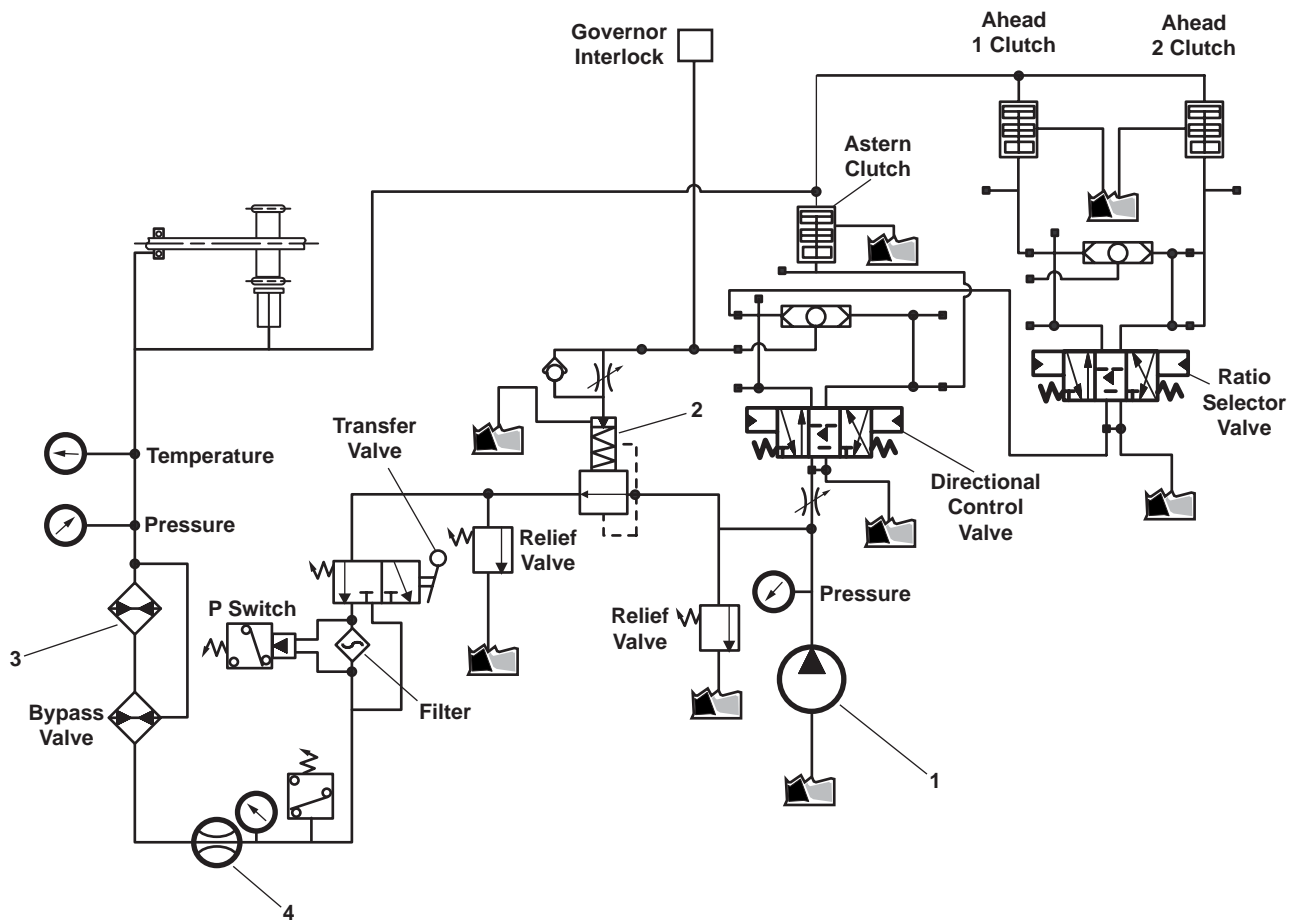
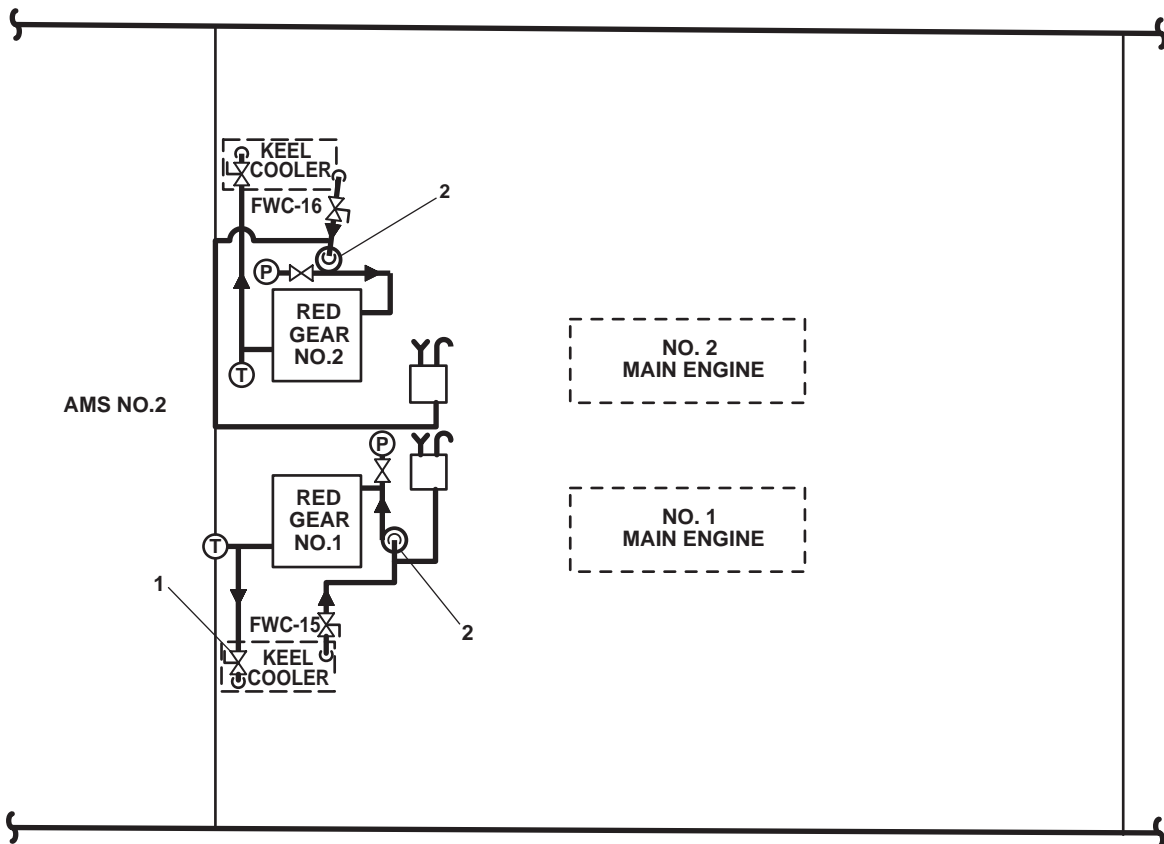

Figure 1. Reverse Reduction Gear Schematic
Figure 2. Reduction Gear Fresh Water Cooling System
A high-pressure gear pump (figure 1, item 1) is driven at engine speed to provide oil for clutch actuation and lubrication of the reduction gear. A pressure-increasing valve (figure 1, item 2) maintains high oil pressure for clutch lockup. The excess oil that bypasses the pressure-increasing valve is used for lubricating the gears, bearings, and clutch plates. The oil is cooled by a cooler (heat exchanger) (figure 1, item 3). If the oil flow ceases, the flow indicator (flow alarm) (figure 1, item 4) switch will sound an alarm and bring the reduction gear to neutral.
A fresh water cooling system (figure 2) transfers heat from the reduction gear lubricating oil through the cooler (heat exchanger) (figure 1, item 3). Water from the cooling system is cooled in turn through keel coolers (figure 2, item 1). Water is circulated by an electric motor-driven coolant pump (figure 2, item 6).